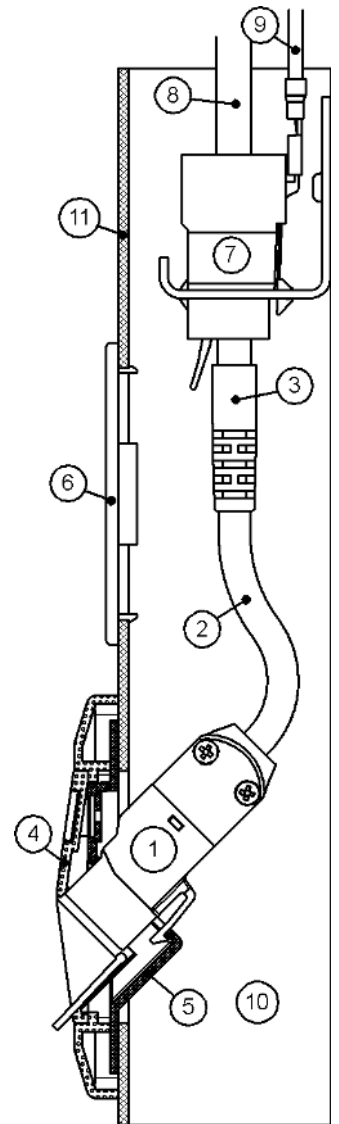
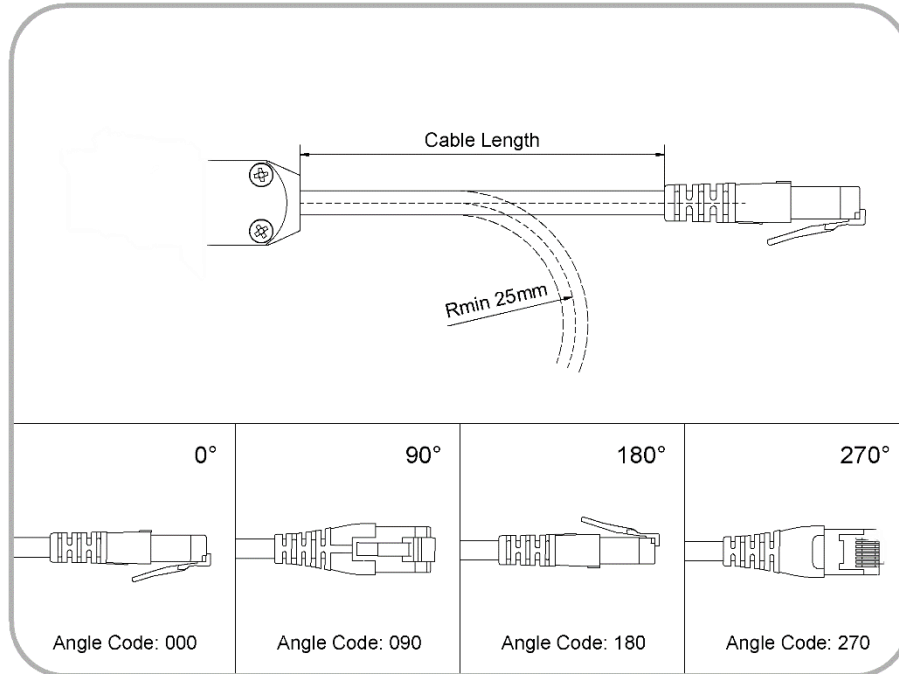

Figure 4 Keystone network isolator in a cable duct
Figure 7. Cable length, as well as angle codes.
Figure 4 shows a typical assembly within a cable duct (10), with cover (11). The Network Isolator EN-66K (1) is shown installed in a Keystone-compatible wall outlet, which usually consists of a support frame (5) and a plastic front panel (4). The RJ45 plug (3) of the Network Isolator is to be inserted into a RJ45 jack module termination (7) at the end of the permanently installed data cable (8). When retrofitting the Network Isolator EN-66K (1) into network channels, the existing RJ45 jack module from the wall outlet can be shifted back within the cable duct (10) and used as the connection to the Network Isolator.
The transmission properties of permanent network installations fitted with EN-66 Network Isolators can be checked with cable certification devices which are suitable for testing electrically isolated cable sections. To be able to conduct such an inspection, the test equipment must be configured in an AC wire-map mode. The entire cable route, including the Network Isolator, can be tested to TIA/EIA-568 Cat 6A or ISO 11801 Class E_A as a Channel-Link. Testing of the cable shielding and the conductor resistance is not possible in this mode. If however, these tests are required, or if the quality of the cable route itself needs to be tested (without the Network Isolator), then testing can be performed by bypassing the Network Isolator, and connecting directly to the RJ45 socket ⑦, set back within the cable duct, as indicated in Figure 4.
The length of the flexible cable stub ② (see Figure 4) of the EN-66 Network Isolator is available in selected lengths from 30 mm to 10 m (inclusive). Refer to Figure 7, as well as the table in section 10.3. It is recommended that this length be kept to a minimum. When compared to a fixed installed cable, this flexible cable stub may be more susceptible to near end crosstalk (NEXT) and alien crosstalk (AXT). The flexible cable stub itself generates a small, but length-dependent amount of insertion loss (IL).
For flexible cable stub lengths between 30 mm and 500 mm (inclusive), the plug angle can be chosen, easing mechanical constraints in certain assembly configurations, and removing impermissible torsion strains from the cable assembly. Refer to Figure 7. The manufacturing tolerance for the plug angle is $\pm 20^\circ$.
When placing orders for EN-66, please specify the exact Order Code (OC). The order number is a hyphenated concatenation of the Article Number (A10068 for EN-66K, or A10069 for EN-66S), the Length Code for the desired cable length (see section 10.3 above), and the Angle Code for the desired plug angle (see Figure 7). For flexible cable stub lengths greater than 500 mm, the EN-66 will always be manufactured with a plug angle of 0° , and the Angle Code can be omitted for such orders.